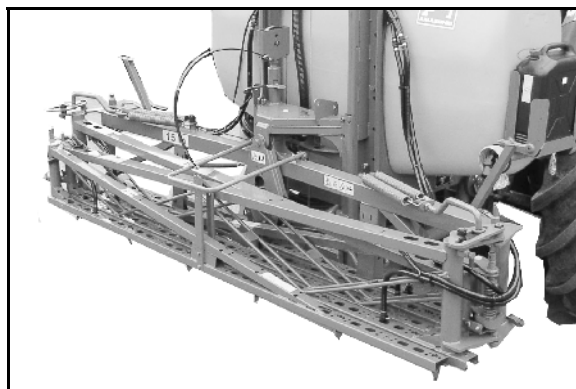

Fig. 78
4. After the booms are folded in, ensure that the transport safety catch engages correctly (Fig. 78).